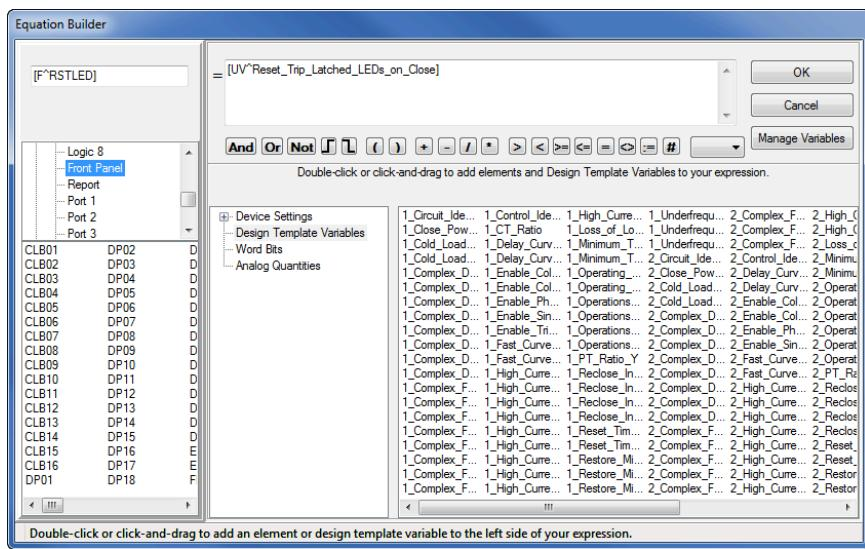

Figure 6.11 Use the Equation Builder to Construct Design Template Equations
Add Equation	Selecting this option opens the Equation Builder dialog box (see Figure 6.11), from which you can develop and modify Design Template equations.
The **Equation Builder** is very similar to the **Expression Builder** forms provided in the Settings Editor. For information on the **Expression Builder** forms, see *Expression Builder on page 111*. *Figure 6.11* shows the **Equation Builder** form.
- ▶ Element naming is done differently to show from which group an element originates. This also provides a visual indication which elements are Design Template Variables because all of the Design Template Variables start with UV[^]. Element naming is done by using one or two characters to indicate a settings group, a carat (for separation), and then the name of the element. Each setting is surrounded by brackets. In *Figure 6.11*, the [F[^]RSTLED] element refers to the RSTLED element from the Front Panel group. Also, in *Figure 6.11*, [UV[^]Reset_Trip_Latched_LEDs_on_Close] refers to the Reset_Trip_Latched_LEDs_on_Close element, where the UV indicates that the element is a Design Template Variable.